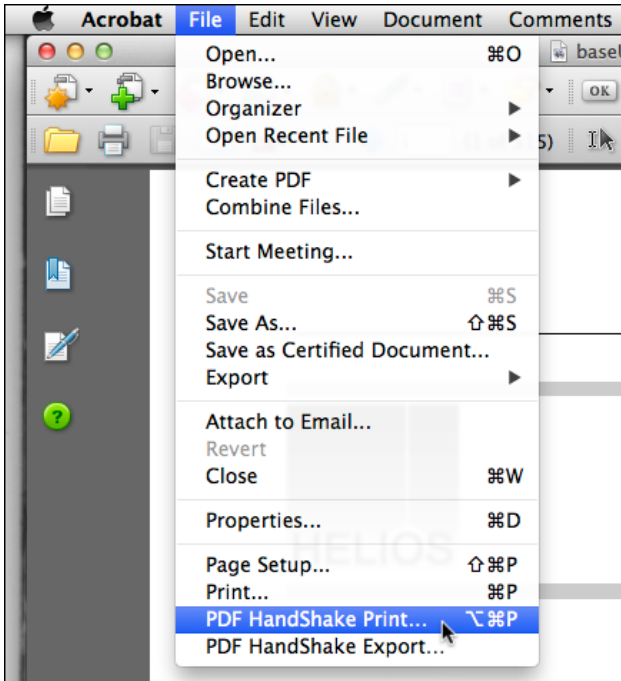

Fig. 14.3: Printing with “PDF HandShake Print”
- Start the “pdfprint” program on your server or install our Acrobat plugin on a Mac client and open the PDF HandShake Print... dialog in your Acrobat application (Fig. 14.3).